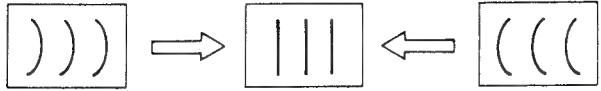

Fig. 29-6
- Adjust H. CENTER LINE by turning DA board RV25 as shown in Fig. 29-6.